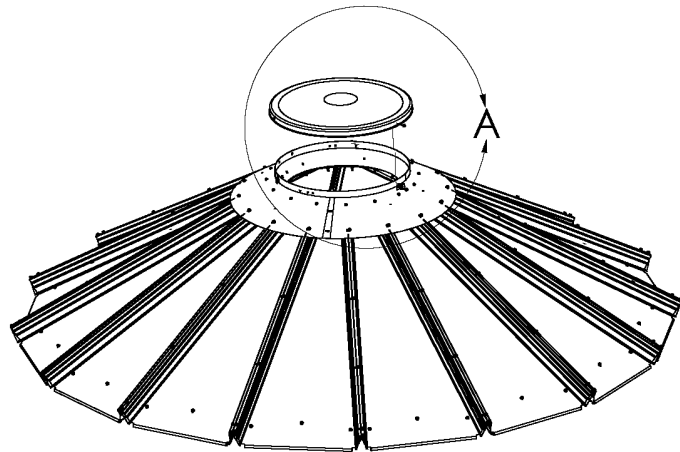

Figure 4-22: Fill Cap Installation
1. Install fill cap brackets. See Detail A in Fig. 4-22.
2. Install the fill cap to the flashing ring using the hardware shown in Fig. 4-22.